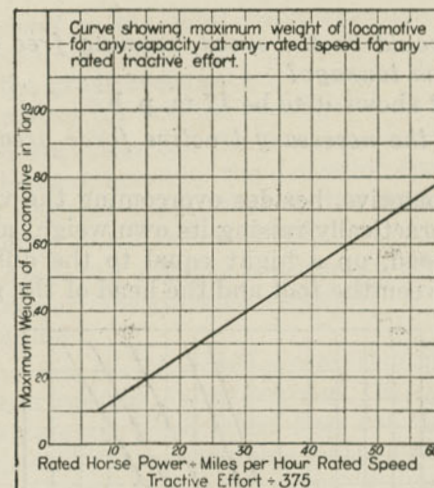

Fig. 401.
**A.** Suppose 240 H. P.; speed 11 miles an hour.  $240 \div 11 = 21.8$ . The scale here given (Fig. 401\*) shows the maximum locomotive weight to be 28.5 tons.